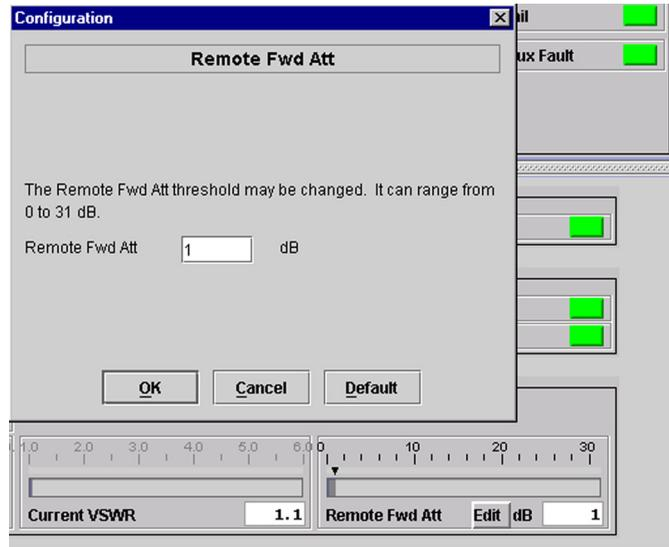

Figure 34. Attenuation Area in RF Window
3. Click on the **Edit** button in the **Remote Fwd Att** area in the window to display the **Remote Fwd Att** dialog shown in Figure 34. (The **Edit** button to be clicked on is in the lower right in the figure.)